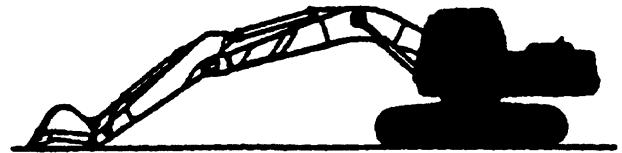

FIGURE 6.9A
2. Operate the attachment Controls until the arm, attachment and boom are in the Hydraulic Oil Check Position. See Figure 6.9A.